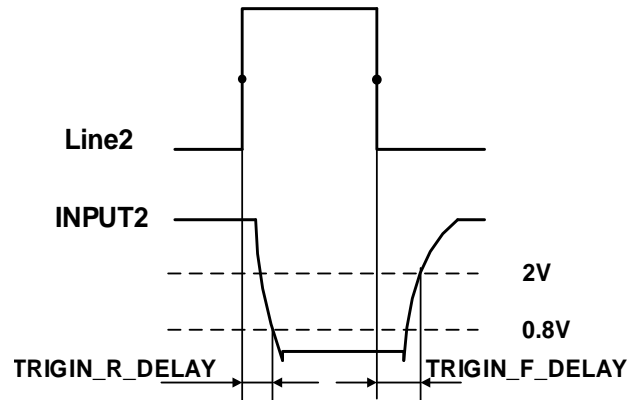

Figure 7-23 Parameter of Line2 input circuit
- Input rising time delay: <math><2\mu\text{s}</math> (0°C~45°C), parameter description as shown in Figure 7-23
- Input falling time delay:  $<2\mu\text{s}$  ( $0^{\circ}\text{C}\sim 45^{\circ}\text{C}$ ), parameter description as shown in Figure 7-23